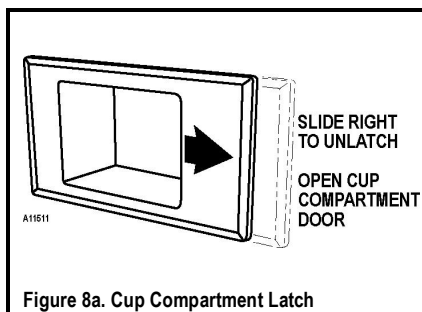
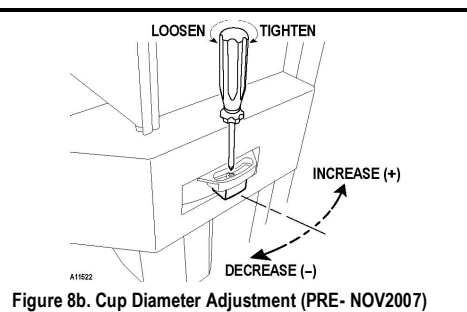

Figure 8a. Cup Compartment Latch
Figure 8b. Cup Diameter Adjustment (PRE- NOV2007)
1. Open the cup compartment door by sliding its plastic latch to the right. See **Figure 8a**.
3. While facing the back of the door, find the cup dispenser adjustment screw located on the right side of the cup dispenser. Use a Phillips screwdriver to loosen the screw. **DO NOT** remove the screw. See **Figure 8a** & **Figure 8b**